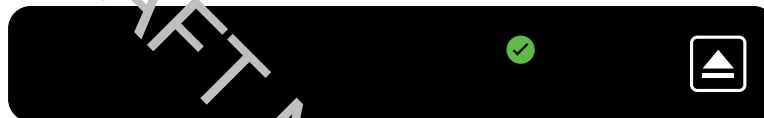

Figure 47 – Secondary Control Panel Display — Wash Cycle Complete
5. When the wash cycle is complete, press the Release button to disengage the rover from the dock (Figure 47).